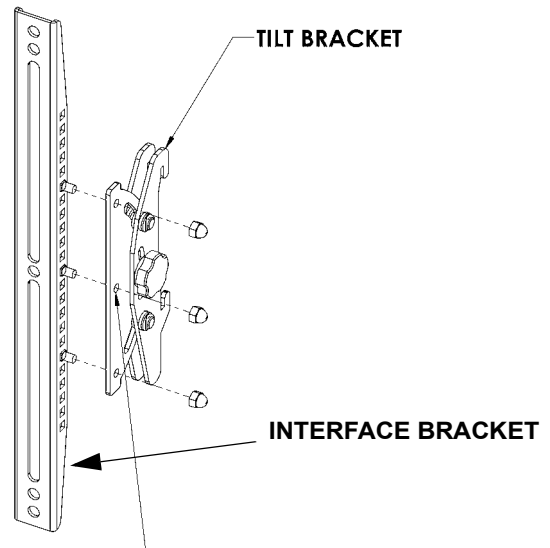

Figure 8. Remove Tilt Brackets
1. Remove the tilt brackets from the interface brackets as shown in Figure 8.